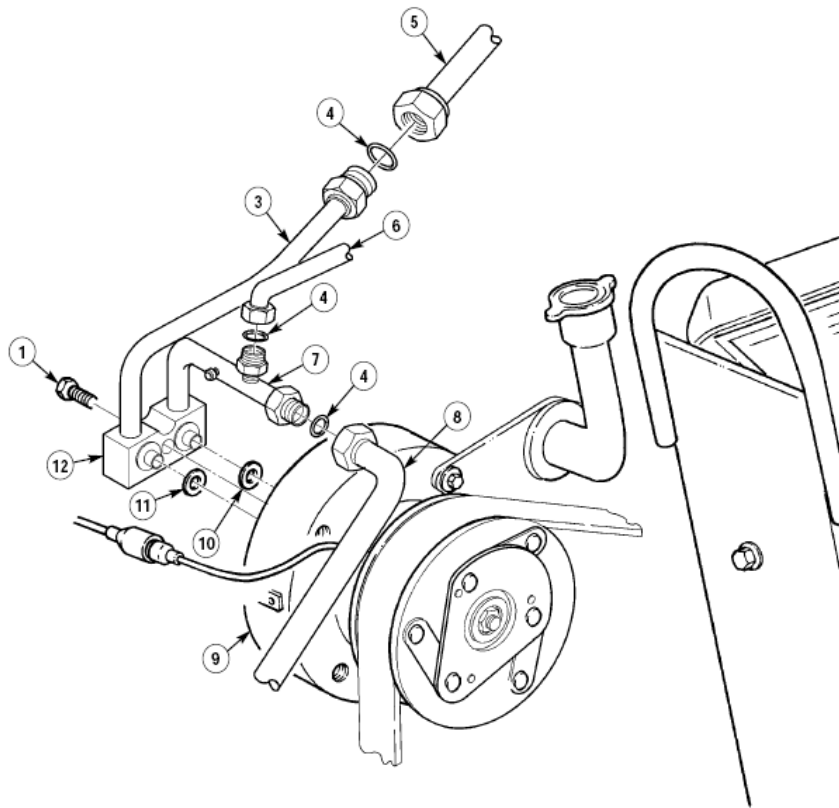

Figure 4
d. Removal of A/C Hoses from A/C Compressor Manifold. Refer to TM 9-2320-387-24-2, Chapter 25, Task Para 25-20.1, Page 25-56.2 and **Figure 4** contained in these instructions.
- (1) Disconnect high-pressure hose (5) from manifold tube (3).
- (2) Disconnect high-pressure hose (8) from manifold tube (7).
- (3) Remove and discard two O-rings (4) from manifold tubes (3) and (7).